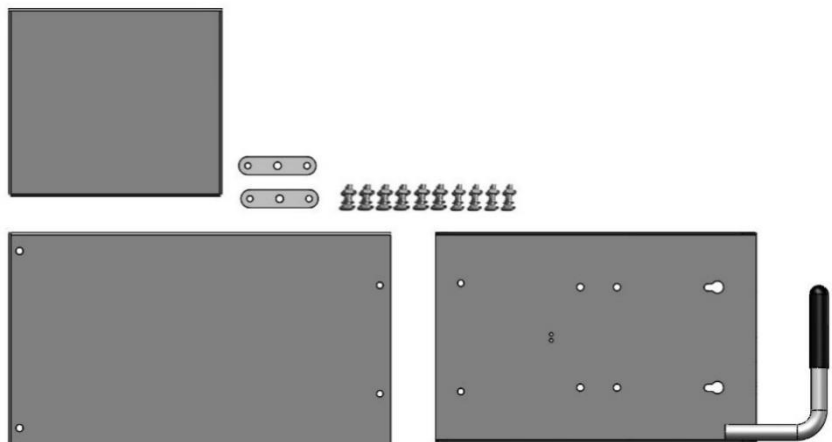

Fig.8
4. Open power unit stand carton and check the parts according to the parts list **(See Fig. 8)**.